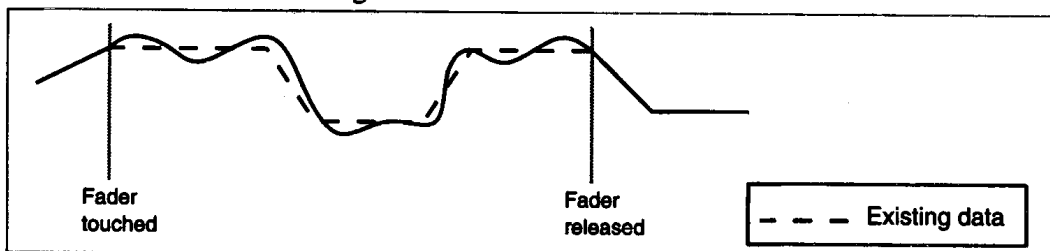

Figure 18-2 Trimming fader levels in Relative mode
**Relative mode:** the new fader moves will be added or subtracted relatively to the existing fader data in the recording track. As you can see from Fig 18-2, the new fader moves appear to modulate about the existing fader data.